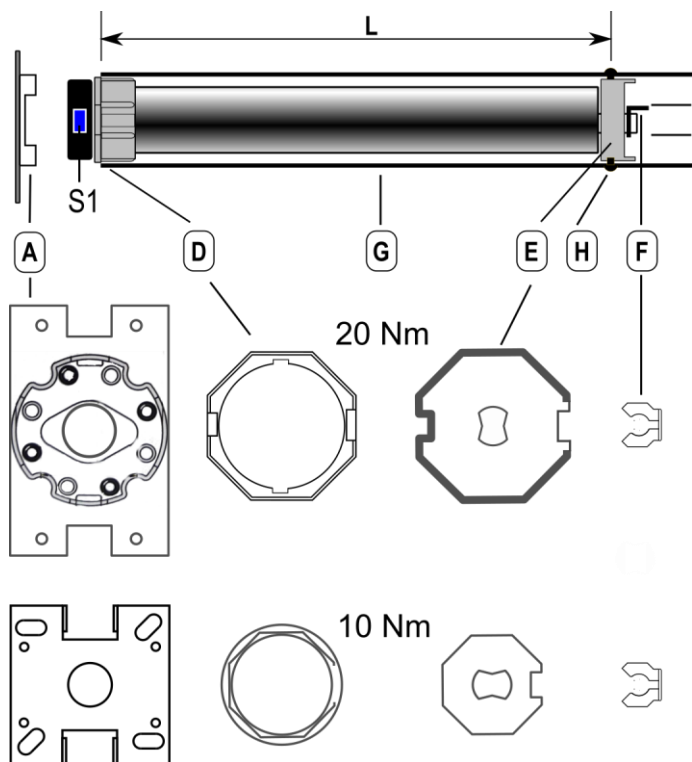

Fig. 2
1. Use a special driver included with the motor (Fig. 2-E).